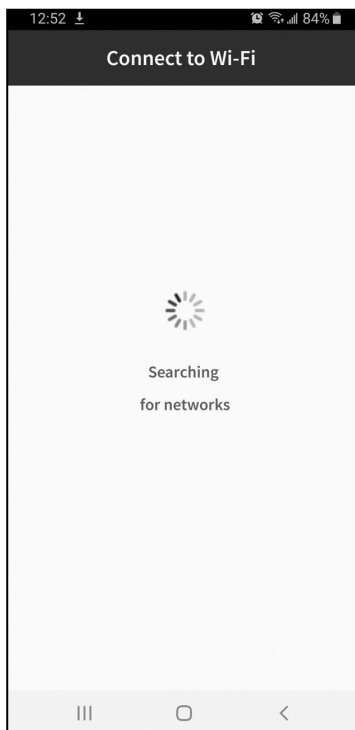

Fig. 20
6. Select desired Wi-Fi and connect by entering the Wi-Fi password of your home (**Fig. 20 & 21**).